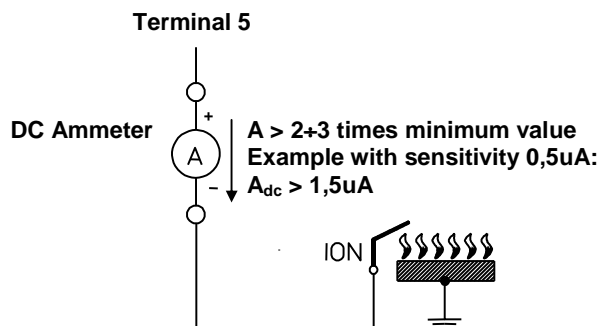

Fig. 9
- if the starting attempt occurs without fuel supply, the controller locks out at the end of the safety time (TS). In case of one or more recycle attempts (Ynn option), the controller locks out at the end of the last recycle attempt (according to the Ynn option);
- the level of the flame signal is high enough (for flame signal test see figure 9 and 10);